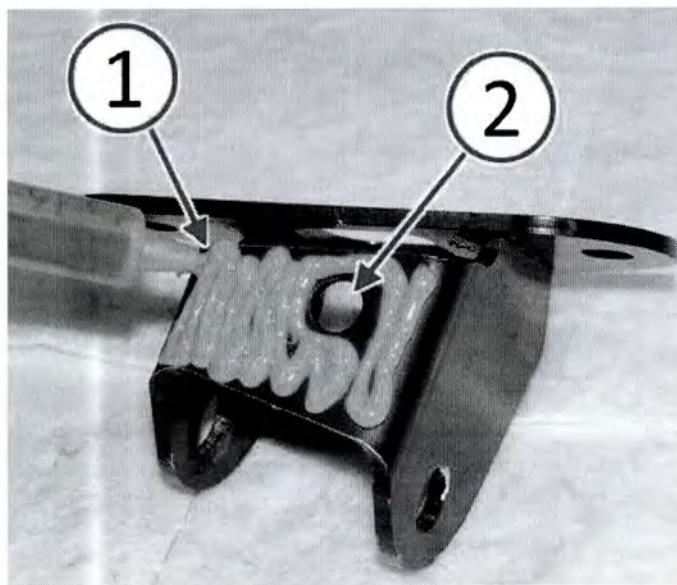

Fig. 9 Apply Adhesive to Shock Bracket Top Surface
NOTE: The structural adhesive (1) must not cover the fastener hole (2) (Fig. 9).
16. Apply structural adhesive (1) to the top surface of the shock absorber bracket. Be sure to avoid the fastener hole (2) (Fig. 9).